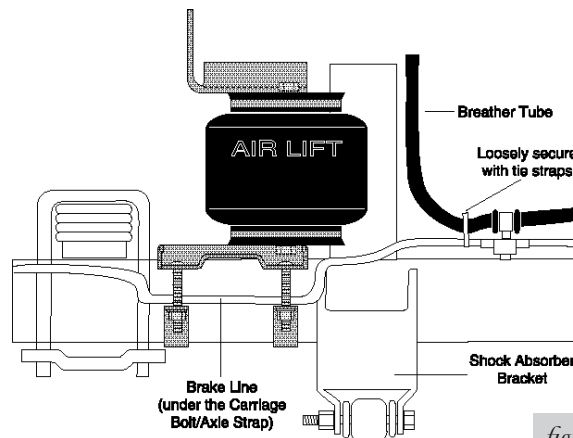

fig. 6
*Non-Disc Brake Models Only: The brake line should be between the carriage bolt and the axle housing (Figure 6).*
5. On the Driver Side Only: Secure the breather tube away from the bellows using provided tie straps (BB). Refer to Figure 6.
6. With the unit aligned vertically and horizontally, tighten the lower assembly to the axle housing. It is important to tighten the forward straps to the lower bracket first, and then the back. Tighten the lock nuts (J) to 16 ft-lbs.